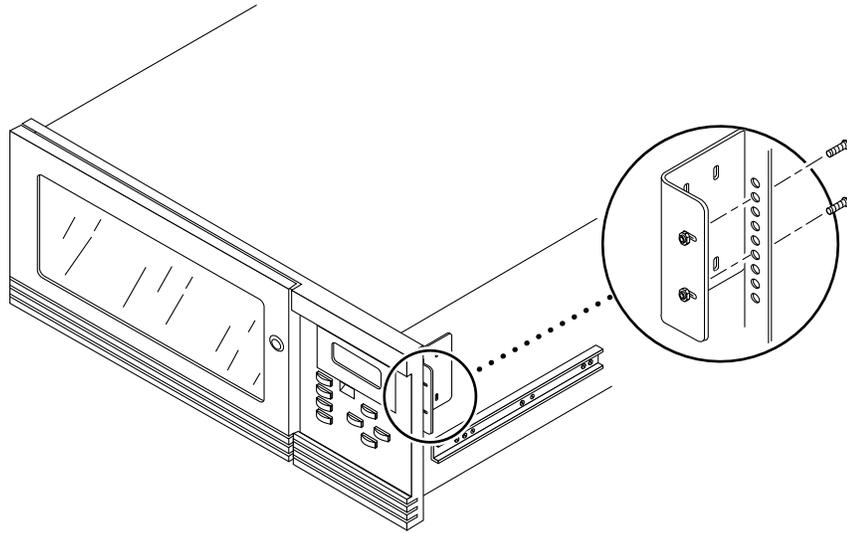

FIGURE 4-10 Mounting a Tape Library Behind a Door
- b. **Use a Phillips screwdriver and thread two 10-32 screws through the back of the rail for each of the mounting brackets (FIGURE 4-10)**